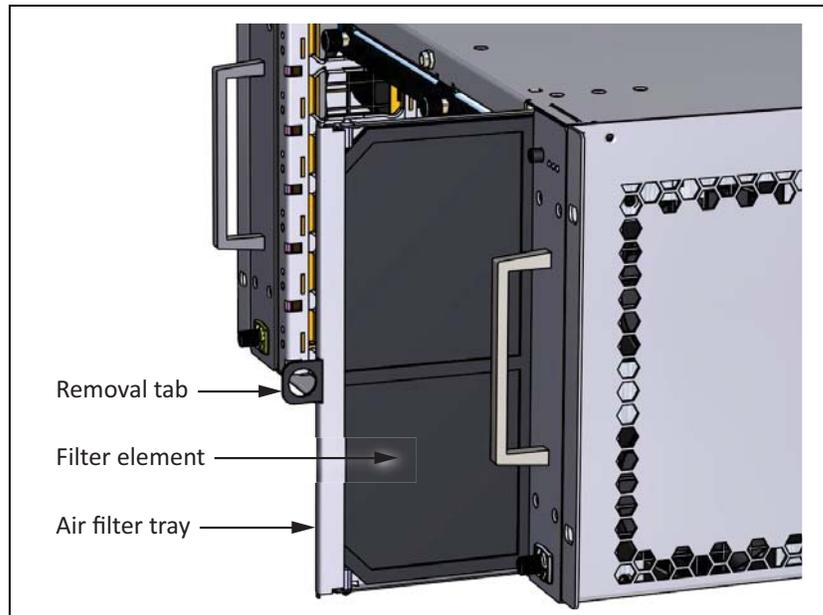

Figure 4.7 - Removing the Air Filter Tray
1. Locate the removal tab on the front of the filter tray. The filter tray is on the left side of the right fan tray. See Figure 4.7.